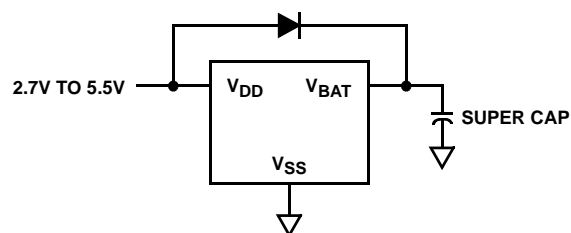

FIGURE 28. SUPER CAPACITOR CHARGING CIRCUIT
- **Mode C** - In this mode the selection bits indicate a low  $V_{DD}$  switchover combined with no communications in battery backup. Operation is actually identical to Mode A with I2C communications down to  $V_{DD} = V_{RESET}$ , then no communications (see Figure 28).